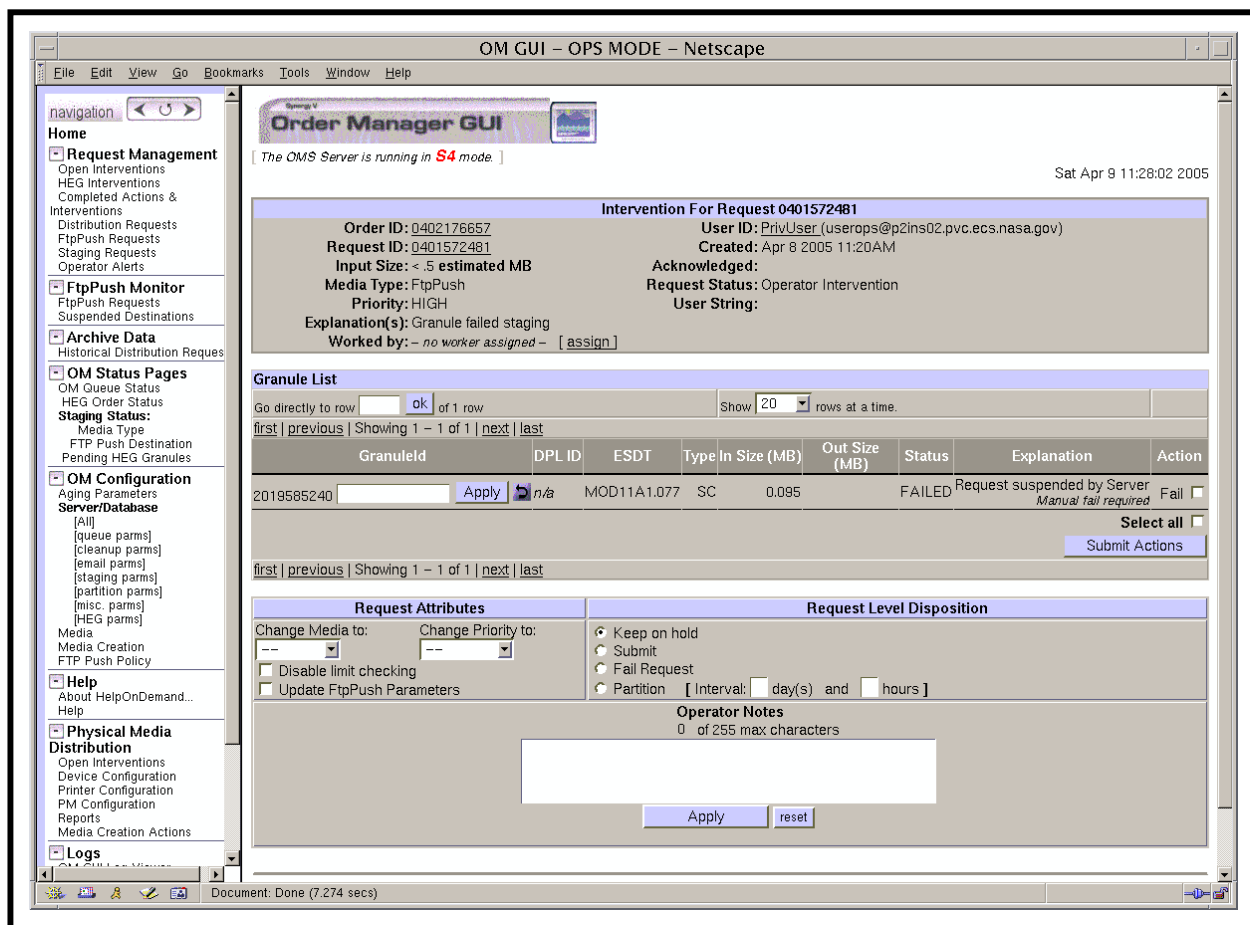

Figure 26. Open Intervention Detail (Intervention for Request X) Page
- For example, clicking on Request ID **0401572481** brings up an **Open Intervention Detail** page (i.e., **Intervention for Request 0401572481**) (Figure 26).
- 5 Observe information displayed on the **Open Intervention Detail** page (Figure 26).
- The following items are displayed on the **Open Intervention Detail** page (Figure 26).
- The **Open Intervention Detail** page (Figure 26) is dismissed.
The **Open Intervention Detail** page (Figure 26) provides the full-capability operator with a means of performing the following kinds of interventions (limited-capability operators are not allowed to work on open interventions):
- The **Open Intervention Detail** page (Figure 26) is being displayed on the **OM GUI**.
- If the **Open Intervention Detail** page (Figure 26) is not being displayed on the **OM GUI**, go to the procedure for **Viewing Open Intervention Information on the OM GUI** (preceding section of this lesson).
- 1 Observe the information displayed in the **Worked by** column of the **Open Intervention Detail** page (Figure 26).